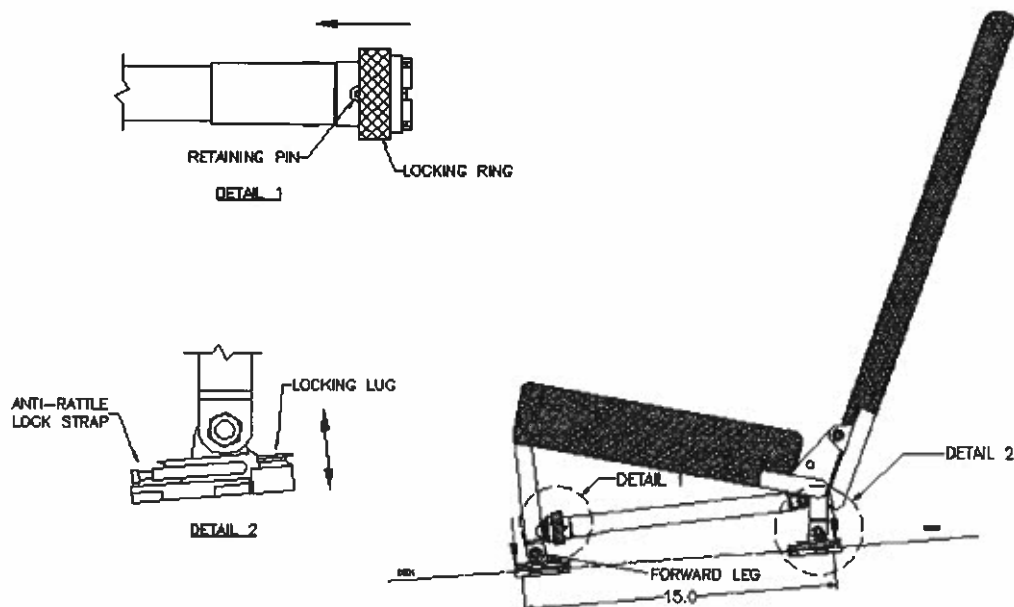

Figure 1.2.1 Seat Installation
1.2.1 Setup and Installation (see Figure 1.2.1):
1. Unfold forward leg and lower diagonal arms. On each quick-release fitting, push in the retaining pin and retract the locking ring (see detail in Figure 1.2.1). Position the diagonal arms to align fittings with studs on forward leg. Push forward leg back to engage studs, then extend locking rings to close jaws.